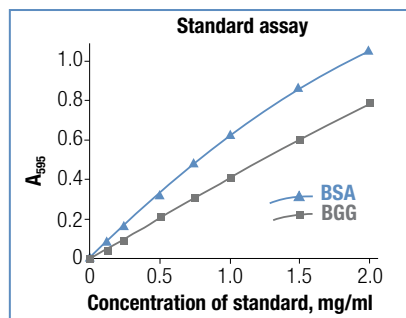

Figure 8.7. Standard curve obtained using Bradford reagent, ready-to-use, in standard assay. BSA – bovine serum albumin. BGG – bovine gamma globulin.
Standard curve creation for protein quantification assays (e.g. Bradford, see Fig.8.7 on p.394 (1)).